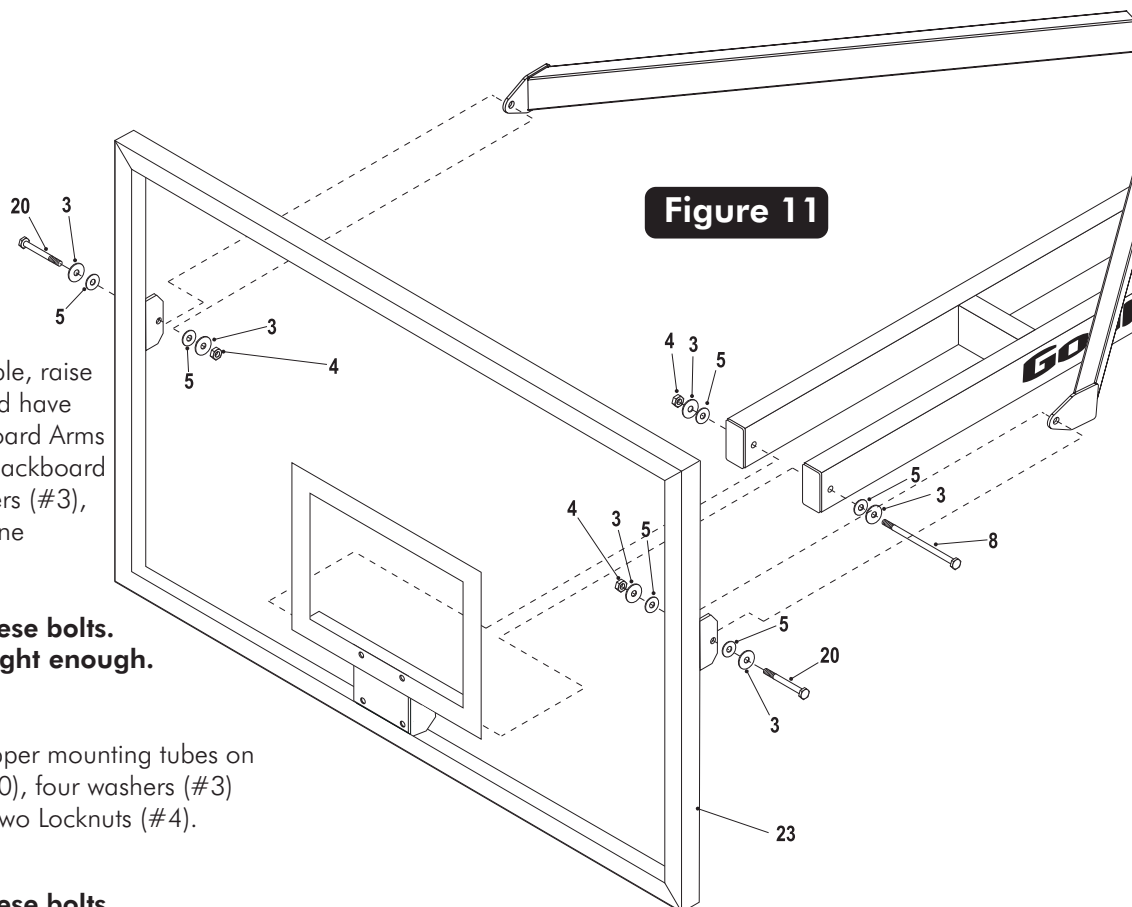

Figure 11
16. With at least four capable people, raise the backboard assembly up and have the fifth person attach Lower Board Arms to the Rim Support (#21) on backboard using one bolt (#8), two washers (#3), two Plastic washers (#5) and one Locknut (#4). See Figure 11.
17. Attach Upper Board Arms to upper mounting tubes on backboard using two bolts (#20), four washers (#3), four Plastic Washers (#5) and two Locknuts (#4). See Figure 11.